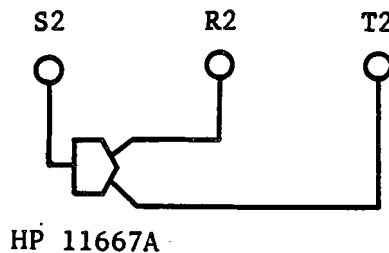

Figure 2-21. Magnitude Ratio/Phase Frequency Response Test Setup (3 of 3)
27. Disconnect the cable from **INPUT R1**, and connect it to **INPUT T2** as shown in Figure 2-21, and disconnect the adapter associated with the power splitter from **OUTPUT S1**, and connect it to **OUTPUT S2**. Repeat steps 3 through 22.